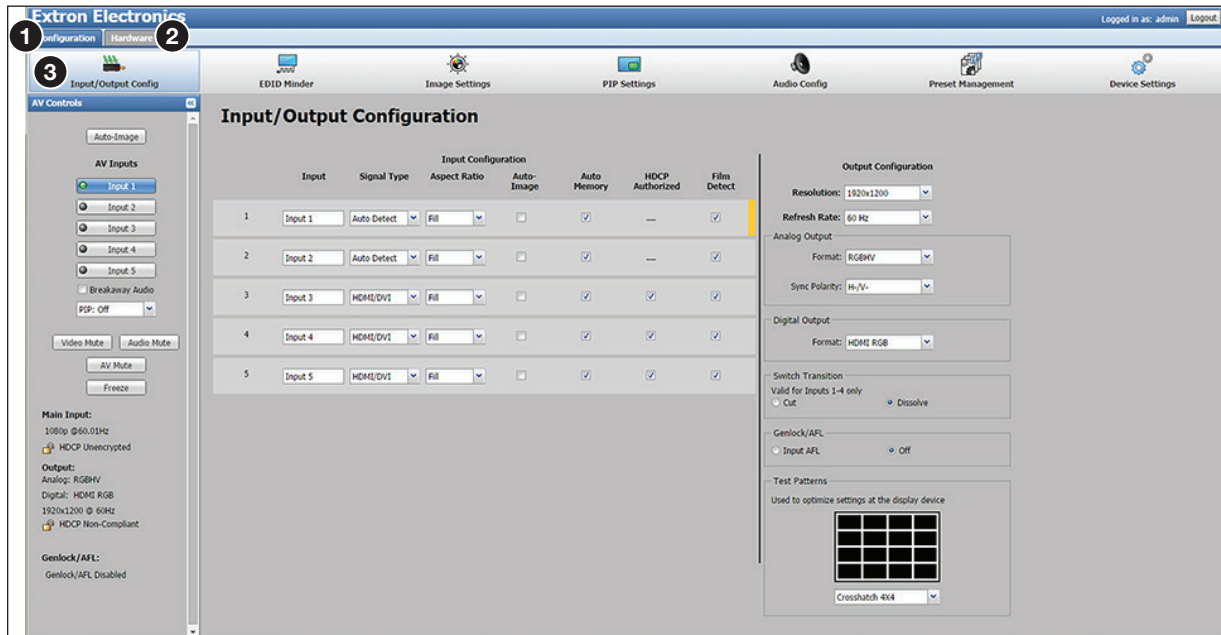

Figure 71. Default Web Pages Open on the Configuration Page
The DVS 605 default web pages has two main pages (tabs): Configuration (see figure 71, ❶) and Hardware (❷). Below the tabs for each page is a global navigation bar with icons (❸) for ease of navigation through the various options. The two tabs have specific groups of options.
The browser screen is set out as two sections. These are AV Controls on the left, and the options page on the right (see figure 71).